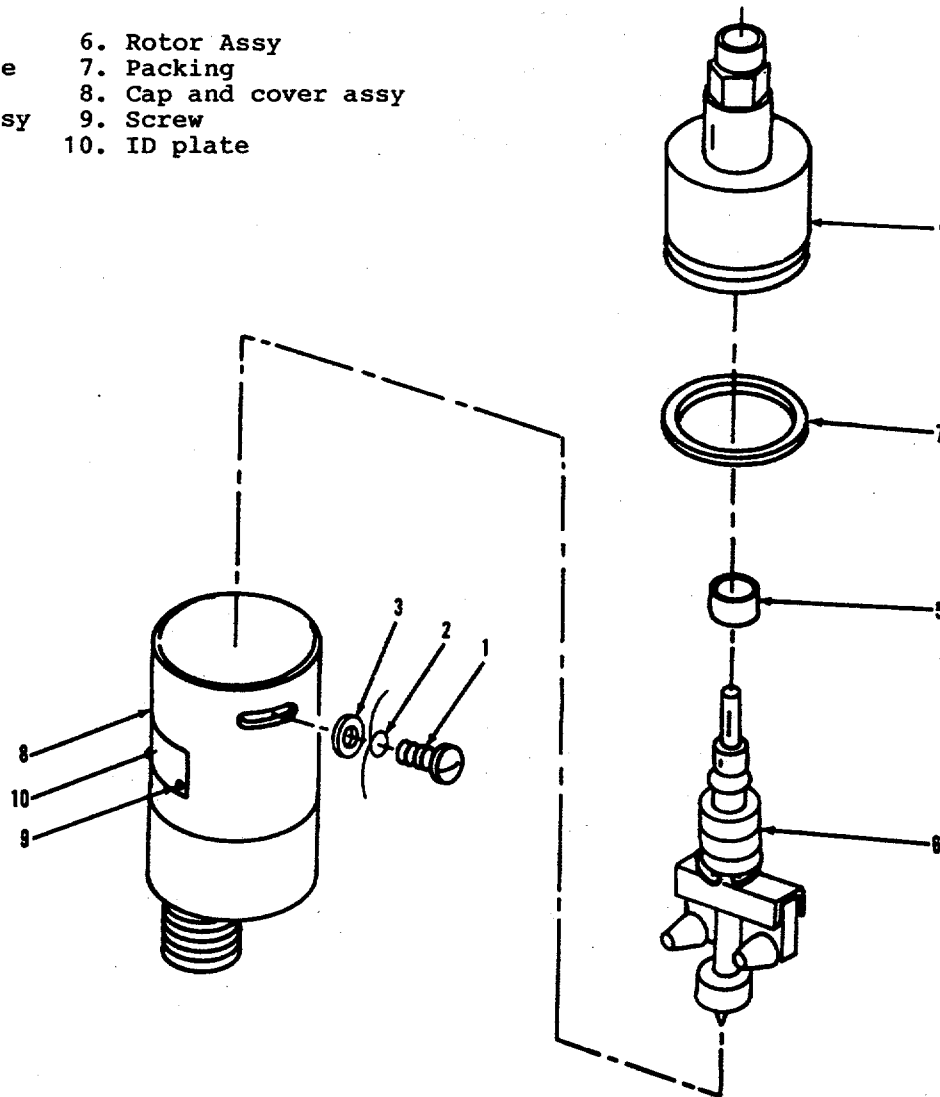
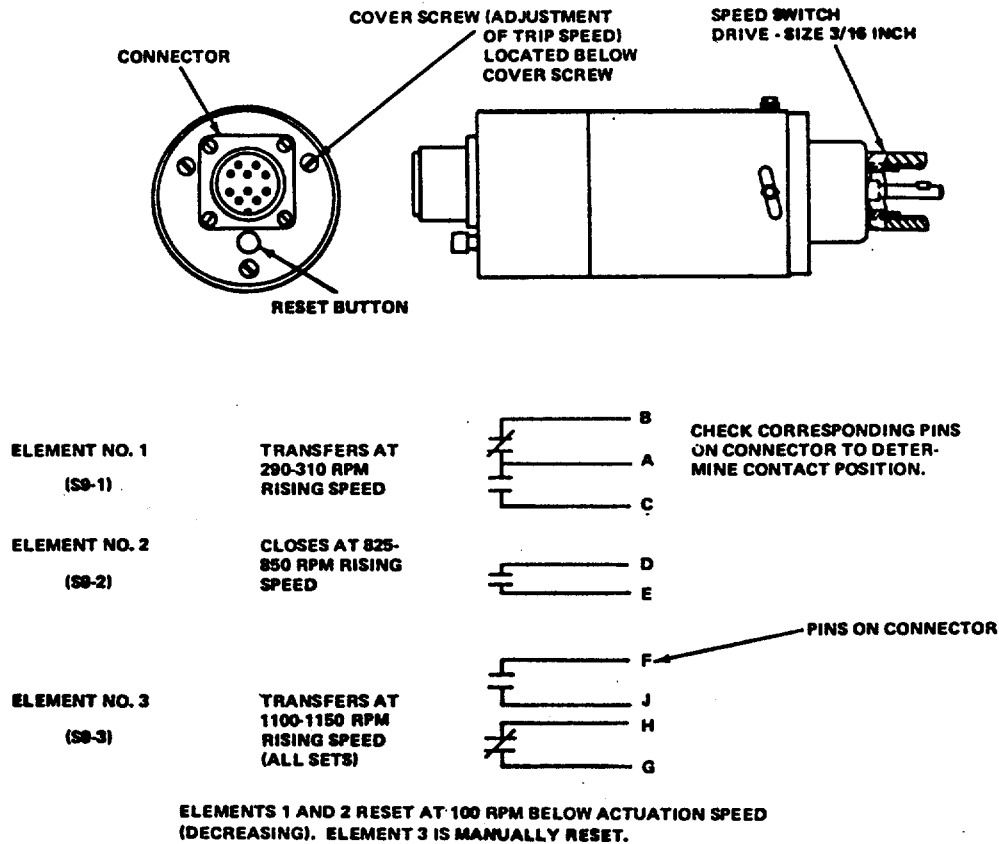

Figure 13-1. Speed Switch,-Exploded View (Mechanical Type Switch) (Code "A")
Figure 13-2. Speed Switch Sensitivity Tests (Mechanical Type Switch) (Code "A")
13-3. SPEED SWITCH (Code "A"). To adjust and repair the mechanical type speed switch, refer to figures 13-1 and 13-2 and proceed as follows:
S9-2 and S9-3 illustrated in figure 13-2.
- (3) When contact conditions are verified, as shown in figure 13-2, start variable drive and gradually increase speed, with ohmmeter connected to pins B and A. At a speed of 290 rpm's per minute, the ohmmeter should indicate that contact A and B opens. Hold the variable speed drive at that speed and transfer the ohmmeter leads to pins A
- (4) Leave the ohmmeter leads connected to pins A and C and gradually reduce speed. In the range of 190 to 210 rpm, the contacts of element S9-1 should reset to the condition illustrated in figure 13-2. To verify operation of element S9-1 contacts A and C, increase
- (5) Connect ohmmeter leads across pins D and E and verify an open circuit. Increase drive speed and observe that elements S9-2 (contacts D and E) closes in the speed range of 590 to 610 rpm. Gradually reduce speed to 490 minimum rpm. Observe that element S9-2 resets to the condition shown in figure 13-2.
- (6) Connect ohmmeter across pins H and G connector and verify a closed circuit. Increase drive speed gradually. The contacts should open at a speed of 1100 to 1150 rpm. Hold drive speed and read contacts F and J. Meter should indicate a closed circuit. Reduce drive
speed to less than 1000 rpm, press the manual reset switch and observe with the meter that element S9-3 contacts reset to the condition shown in figure 13-2.
- (7) To obtain the required performance characteristics during tests (3) through (6), adjustments can be made. By loosening screws (1, figure 13-1) and rotating the cap and cover assembly relative to the body assembly, the trip points of all those elements can be raised or lowered. In addition, the trip speed of each individual element can be raised or lowered by removing cover screws as shown in figure 13-2 and turning appropriate set screw located beneath cover screws with a 1/16 inch Allen wrench.
d. Speed Switch Disassembly. Refer to figure 13-1, cut safety wire and disassemble in sequence of index numbers observing the following:
(1) If either the rotor assembly, the body assembly, or the spacer are damaged or defective, replace, defective part. Reassembly. is the reverse order of figure 13-1 sequence of index numbers. Refasten with lockwire after readjustment.
(2) Repeat the test and adjustment procedures in paragraph C, above.
(3) Refer to Operator/Crew and Organizational Maintenance manual and install speed switch.